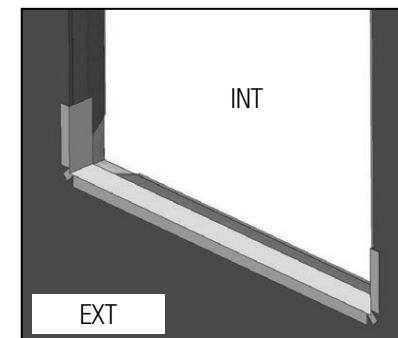

FIG. 8
- D) Apply sill flashing to the rough opening as shown below. (Fig. 8)